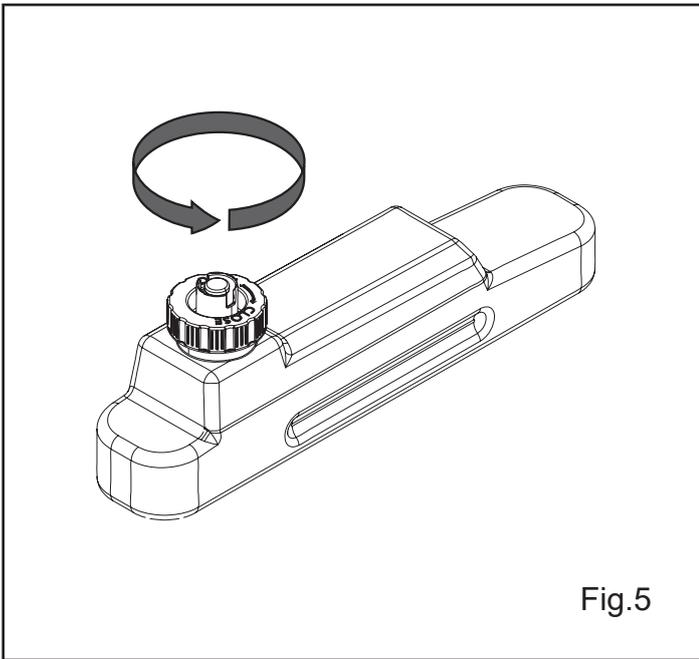

Fig.5
4. Place the water tank in sink and remove cap, Anti-clockwise to open. (See Fig.5)